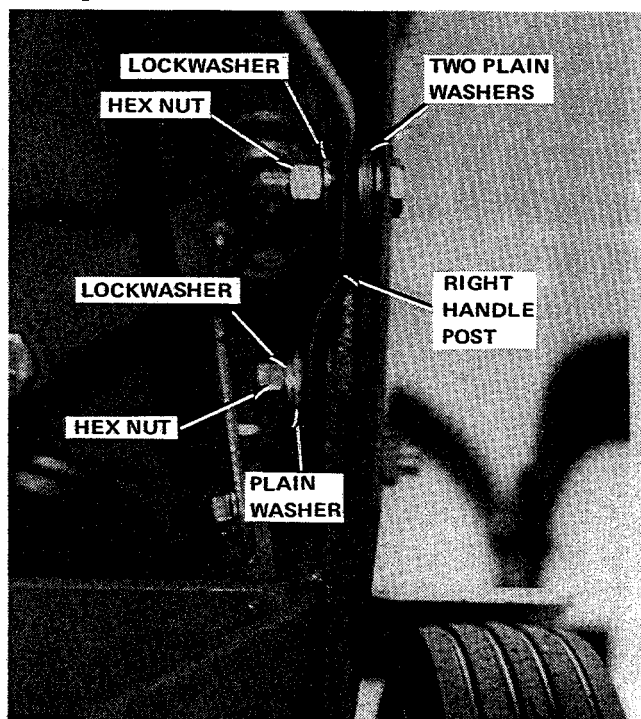

Figure 18. Installing Handles
1. Install the right handle post as shown in figure 18. The top capscrew has two plain washers between the frame and post and is secured with a lockwasher and hex nut. The bottom capscrew has a plain washer, lockwasher, and hex nut as shown. Tighten all hardware.